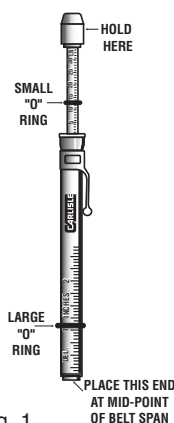

Fig. 1
1. Measure the span length of the drive. (See Fig. 1). Set the large "O" ring at $1/64"$ for each inch of belt span. For example, set the large "O" ring $1/4"$ for a span length of 16", at $1/2"$ for a span length of 32", at 1" for a span length of 64" etc.